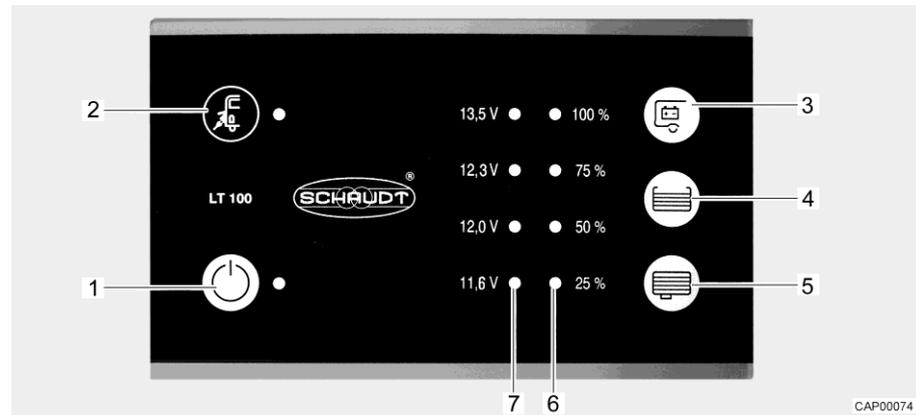

Fig. 96 Panel (LT 100)
The yellow LED at the mains connection symbol "⚡" (Fig. 96,2) is lit when the vehicle is connected to an external mains supply. In this case, the LED will also be lit when the panel is switched off.
The 12 V main switch (Fig. 96,1) switches the panel and the 12 V power supply of the living area on and off.
- Press switch "⏻" (Fig. 96,1): The 12 V living area power supply is switched on. The LED lights up green.
- Press switch "⏻" (Fig. 96,1) again: The 12 V living area power supply is switched off. The LED goes out.
The LED array (Fig. 96,7) displays the battery voltage of the living area battery as follows:
- Press the button " " (Fig. 96,3): The battery voltage of the living area battery is displayed.
The LED array (Fig. 96,6) displays the fill level of the fresh water tank or of the waste water tank.
**Display fill level:** Press the button "☰" (Fig. 96,4): The fill level of the fresh water tank is displayed by lit LEDs.
Press the button "☷" (Fig. 96,5): The fill level of the waste water tank is displayed by lit LEDs.